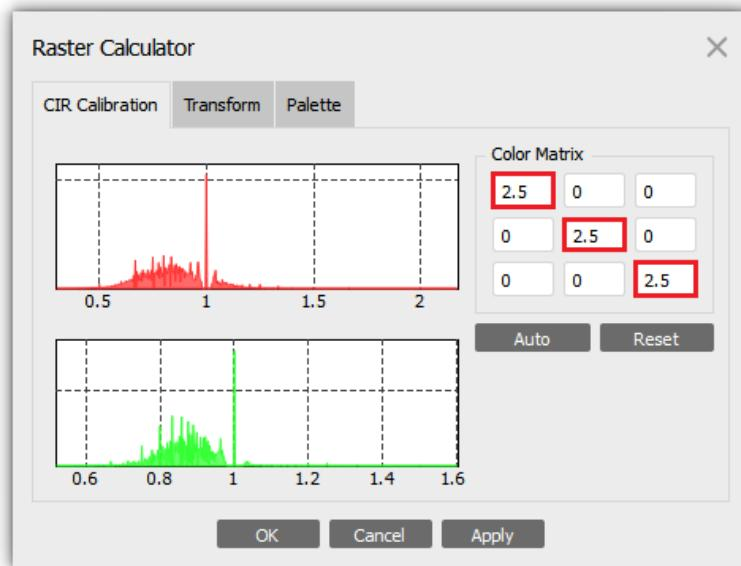

Figure 4.26 Raster Calculator dialog showing brightness calibration example.
- Click OK to commit the adjustments (Figure 4.26)